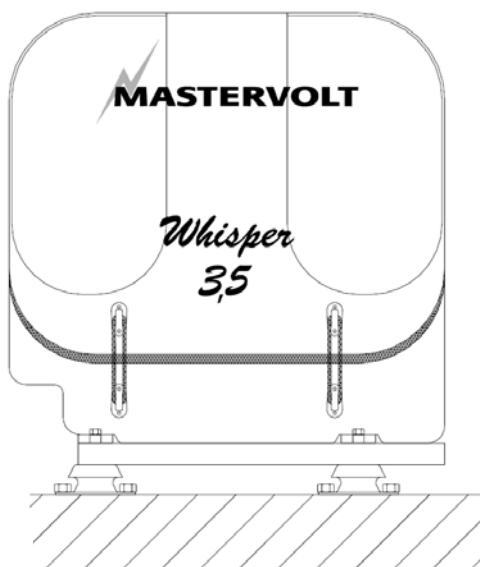

Fig. 12
- 1 install a steel foundation plate between ship's hull and generating set, with 4 shock mounts (ref. to fig. 12) 'foundation plate'.